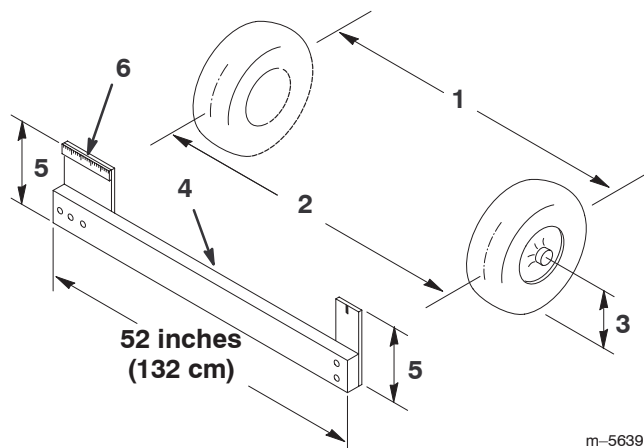

Figure 50
4. Measure the distance between both of the front tires at the axle height at both the front and rear of the front tires (Fig. 50). A fixture or alignment gauge is needed for the rear measurement of the front tires at axle height. Use the same fixture or alignment gauge to accurately measure the front of the front tires at axle height (Fig. 50).